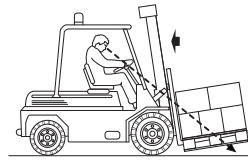

Figure 12
- (f) lower the load carefully and smoothly to the correct travelling position, applying a further backward tilt. Check to see the way is clear before moving off (Figure 12).